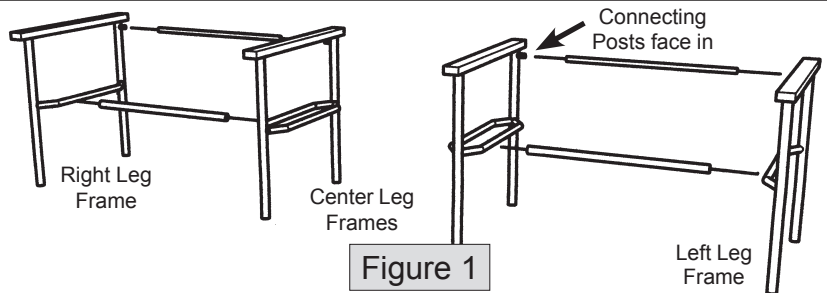

Figure 1
1. Assemble chairs individually before attaching tabletop. Be sure center legs and connecting posts are positioned as shown in figure 1. Complete all steps on chair instruction sheet.